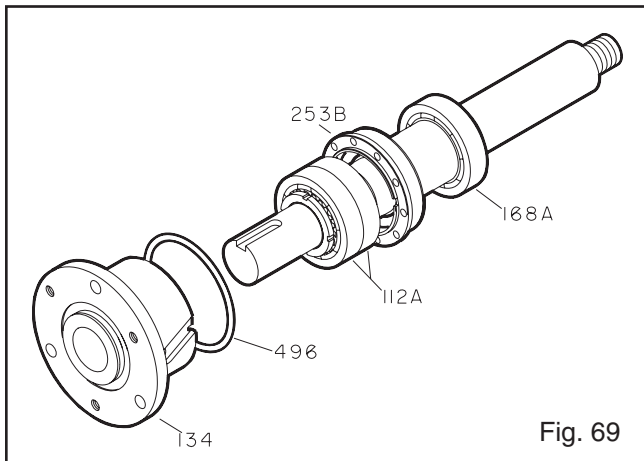

Fig. 69
- Remove bearing housing (134) from shaft (122) with bearings (112A, 168A) (Fig. 69).